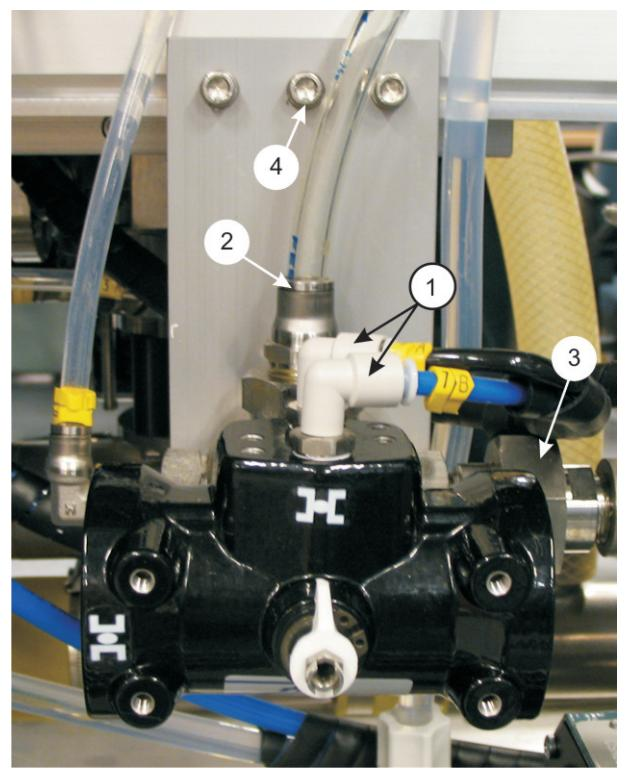

Fig. 9. Replacing the 3-way valve and actuator.
3. Detach the air and water tubes (Fig. 9, parts 1 & 2).